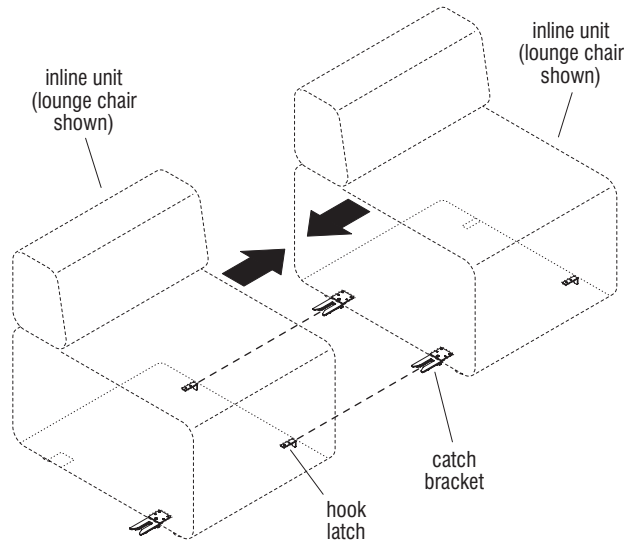

Figure 5
Note: When ganging units together, it is recommended to first start with inline units and add on any half round units last (Figures 5 & 6).
1. With the adjoining units near their final installation location, carefully align the catch bracket and hook latch of the two units intended to be joined. Push the two units together, inserting the hook latches into the opening of the catch brackets until a clicking sound is heard. The clicking sound indicates the ganger components are engaged. Continue to push the hook latches into the catch brackets until both Zeker units are pressed tightly together. Repeat this step to secure the remaining Zeker units together in the desired configuration, leaving half round units last (Figures 5 & 6, Detail E).